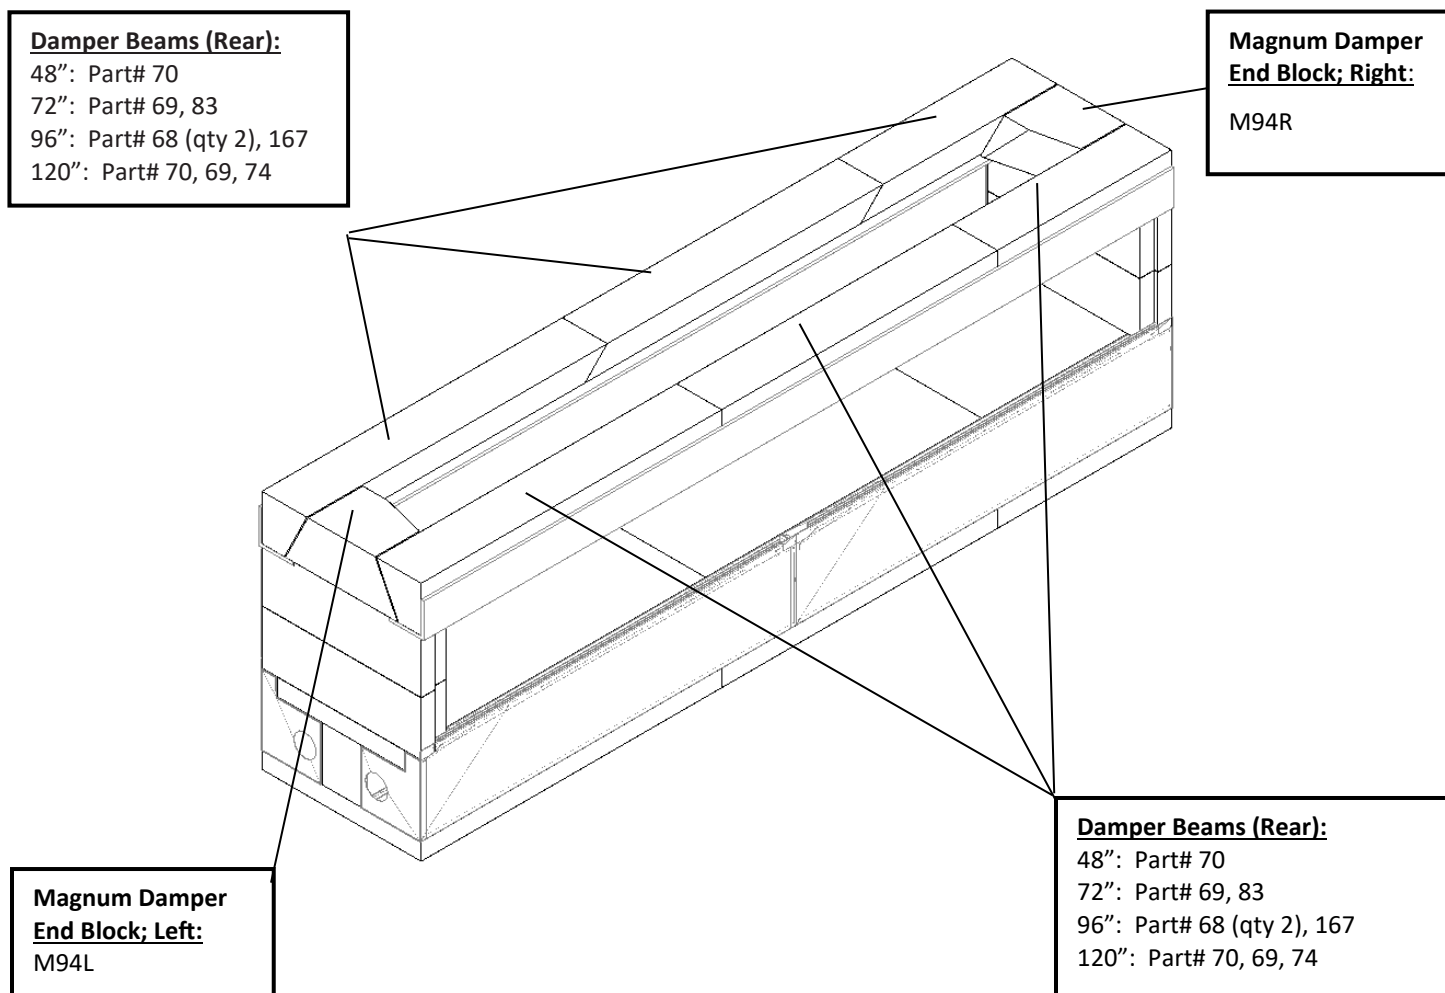

FIGURE 14
The damper beam assembly consists of long lintel pieces and two (2) short damper end blocks. The lintels will be equal to the width of the fireplace model that they serve. These components both sit on their narrow base so that their beveled face points down and into the firebox interior (**Figure 14**).
The damper end blocks are designed to sit on the firebox side wall between the front lintel and the back lintel. Each of the damper end blocks are designed for a specific side of the unit. When properly set, the damper end block fits flush with the outside face of the firebox side wall. (**Figure 14**).